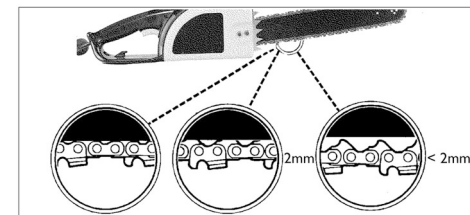

Fig. 4
**NOTE:** A new chain and bar will need readjustment after as few as 5 cuts. This is normal during the break-in period, and the interval between future adjustments will lengthen quickly (Fig. 4).
**CAUTION:** If a chain is TOO LOOSE or TOO TIGHT, the bar chain and saw bearings will wear more rapidly. Study Fig. 4 for information concerning correct cold tension (A), correct warm tension (B), and as a guide for when saw chain needs adjustment (C).
**CAUTION:** If the chain is too loose, more than 3mm after applying down force with finger, as shown in Fig. 4. It needs to be adjusted, otherwise the stopping time might be over the limit.